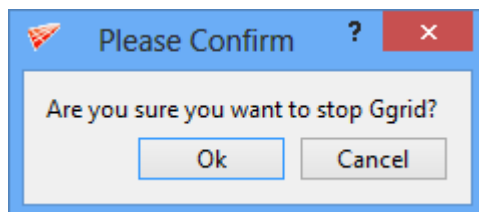
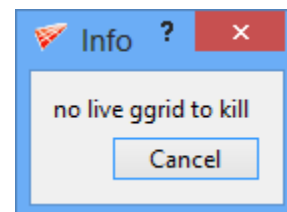

Figure 2.63: Confirmation dialog box
Figure 2.64: Error message when ggrid is not running
**Ggrid** icon **Stop** located in global dock. If Ggrid is running, a confirmation dialog is popped-up as shown in the figure 2.63. If Ggrid is running on a disjoint topology, i.e. if there are multiple Ggrid processes running simultaneously, they are all killed after confirmation. But if the grid generation engine is not running, an error message is displayed (see Figure 2.64).